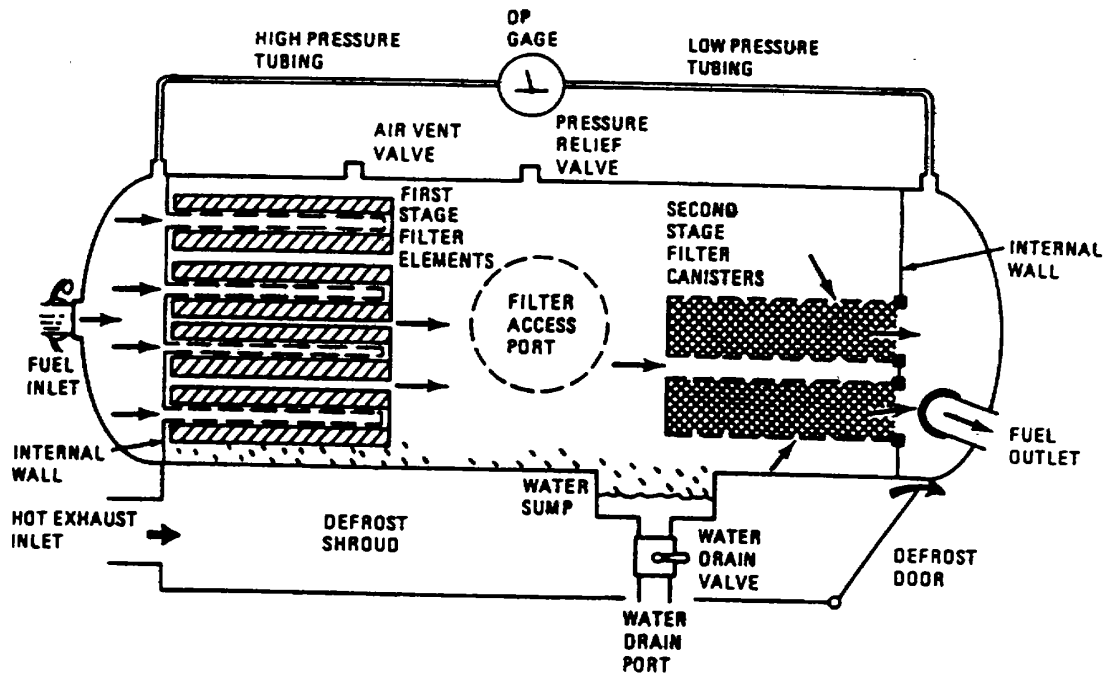

Figure 1-4. 2000 GPM Filter-Separator Principles of Operation
- a. General. The flow of fuel through the filter-separator is shown in figure 1-4. Unfiltered fuel is pressurized by the fuel system pump assembly. The system pump discharge is connected to the filter-separator fuel inlet.